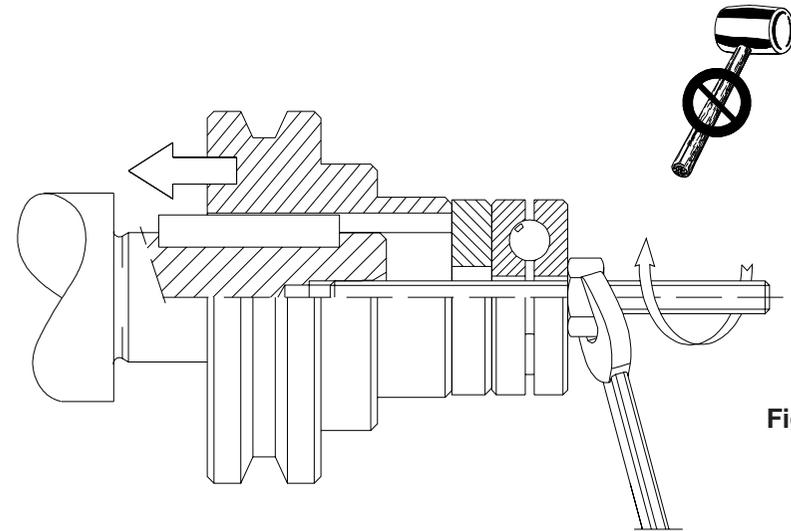

Fig.1
- The various machine members (pulleys, gear wheels, couplings, etc.) must be mounted on the shafts using special threaded holes or other systems that ensure correct operation without risk of causing damage to the bearings or the external parts of the assemblies (fig.1).